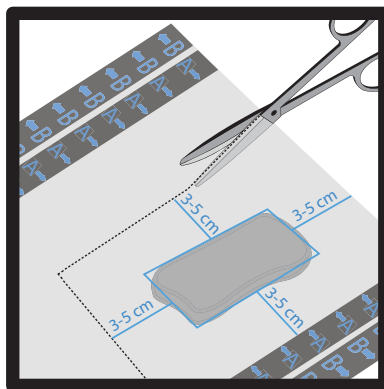

Figure 4
8. Size and trim the Cardinal Health™ Polyurethane Drape to cover dressing plus a 3-5 cm border of intact skin (extra pieces of drape can be used to seal dressing leaks) (**Figure 4**).